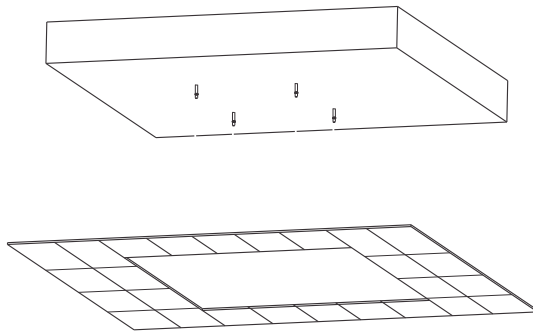
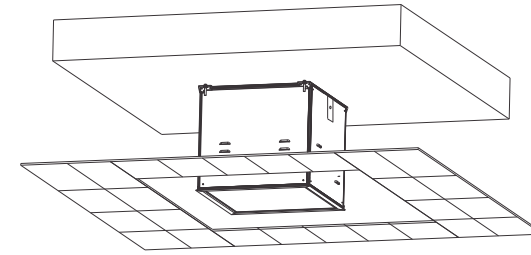

figure 4
figure 5
2. Ensure the security distance M、N according to the figure 4 and the model of table. Install the brackets to the roof via the screws, figure 5.